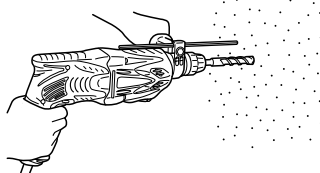

Fig. 8
- (1) Mount the drill bit.
- (2) Pull the trigger switch after applying the drill bit tip to the drilling position (Fig. 8).
- (3) Pushing the rotary hammer forcibly is not necessary at all. Pushing slightly so that drill dust comes out gradually is just sufficient.
- **When the drill bit touches an iron reinforcing rod, the bit will stop immediately and the rotary hammer will react to revolve. Therefore please grip the side handle and handle tightly as shown in Fig. 8.**